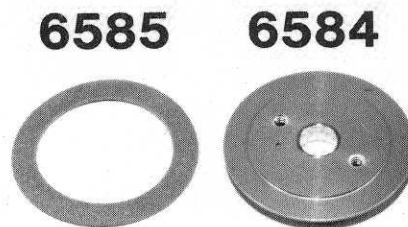

Fig. 63
□ **Figs. 63 & 64** Position the #6585 clutch disk so it's centered onto the #6584 outer hub, as shown.